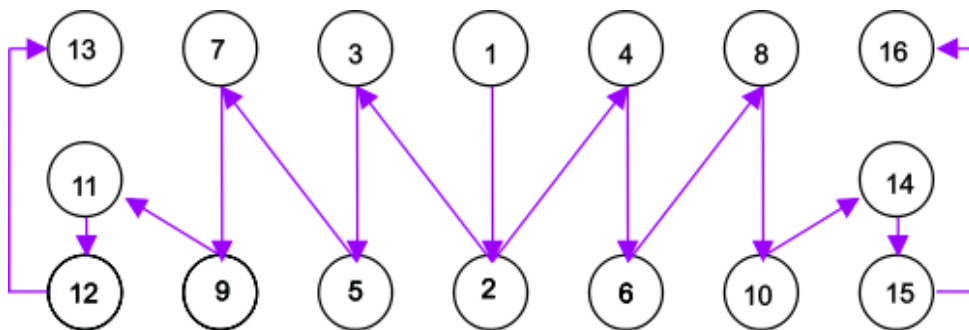

Figure 5 - Torque Pattern
- b. Tighten all nuts per Figure 5 - Torque Pattern, to 35 ft-lb torque. After the initial torque has been applied retorque them to 50 ft-lb, again using the pattern shown in Figure 5. The permissible range of final torque values are as follows:
- d. After the coil has been leak tested and found to be free from leaks, let it sit for 24 hours. Retorque to 50 ft-lb per Figure 5 - Torque Pattern.